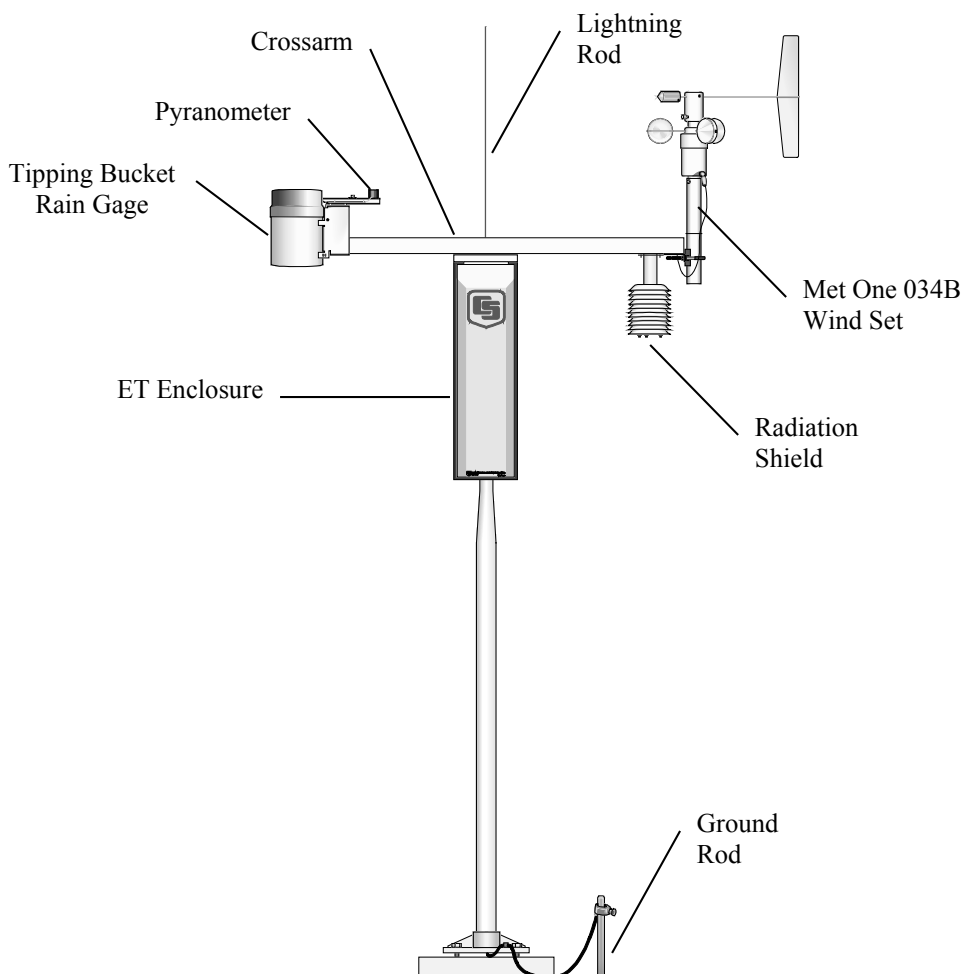

FIGURE 2-6. T107 Instrumentation Mounted on the ET Tower
3. Cut and save a 9 inch piece of 12 AWG ground wire from the 12 foot length provided. This will be used later to attach the enclosure ground to the lightning rod assembly (reference FIGURE 2-6).
- (1) T107 Crossarm with Sensors (see FIGURE 2-6)